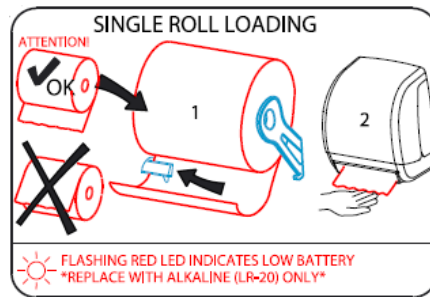

Fig. 9
1. Place roll onto wire holders. Paper is to be loaded with paper end unwinding from the back of the roll as shown in Fig. 9 above.
2. Paper end is then placed under the transfer bar arm as identified by arrow in Fig. 9, step 1 above.